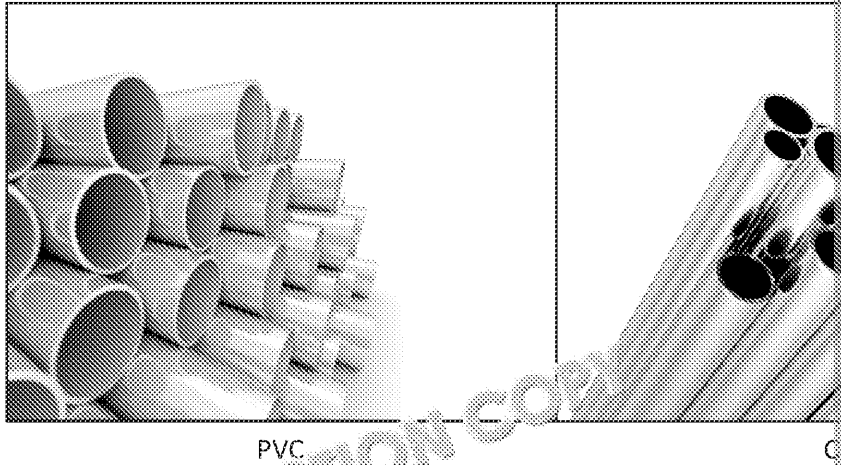

Figure 4
6. Figure 4 shows two different types of plumbing pipe.